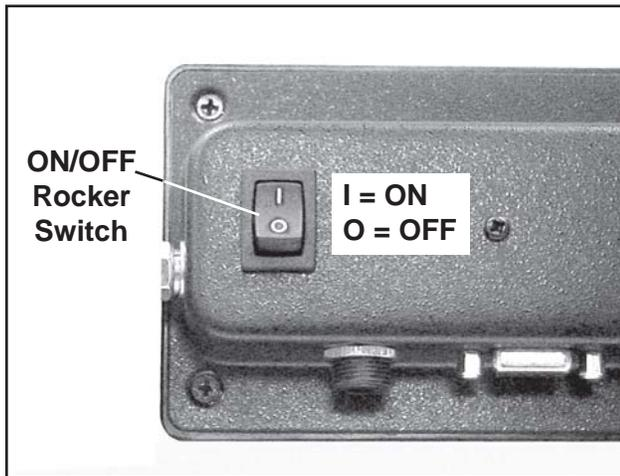

Figure 24. Remote Display On/Off Rocker Switch
- The remote display must be turned **ON**. Push the **I** (top) end of the **ON/OFF** rocker switch in back of the display (Figure 24).